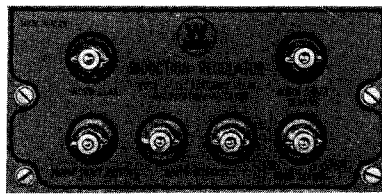

FIG. 7—CENTRALIZED LUBRICATING SYSTEM
26. A central lubricating station Fig. 7 is located on the motor side of the regulator. If a ball bearing motor is used, the bearings have been packed at the factory and should not be greased for a year or more of service. If sleeve bearing motor is used, the oil well should be filled to the overflow plug. The top bearing worm gear and worm shaft bearing should be greased with a good quality soft grease each month while regulator is in motion. The indicator shaft bearing, brake shoe bearing and auxiliary relay